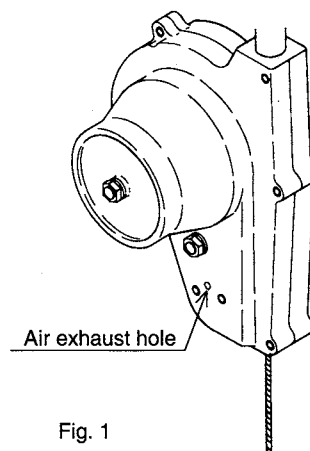

Fig. 1
5. 2 Check of the Preventive Device against Reverse Winding (Overlowering Limit Switch) -See Fig. 1